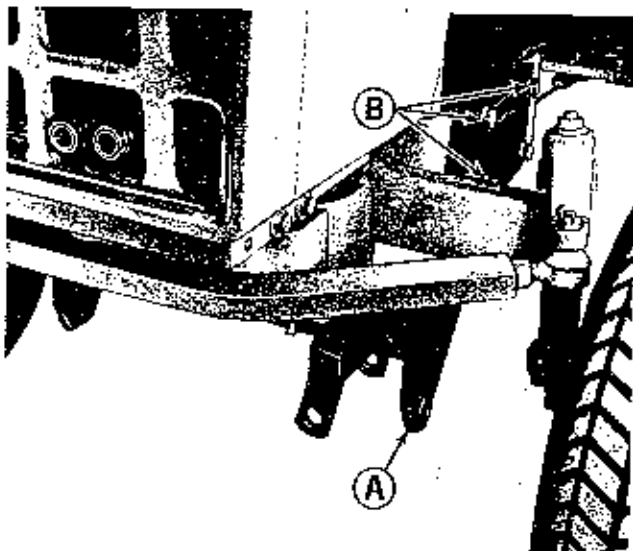
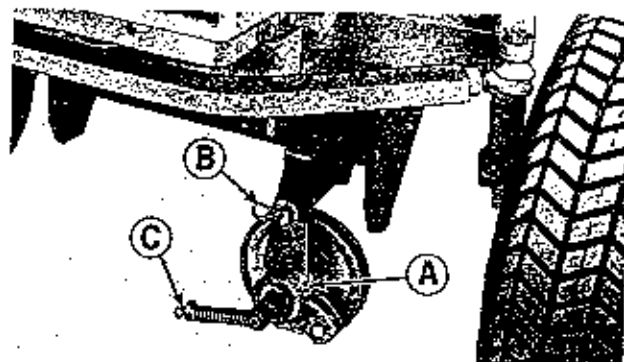
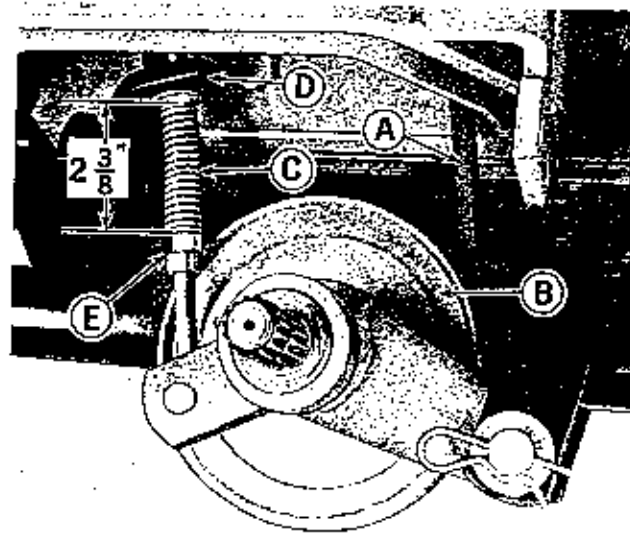
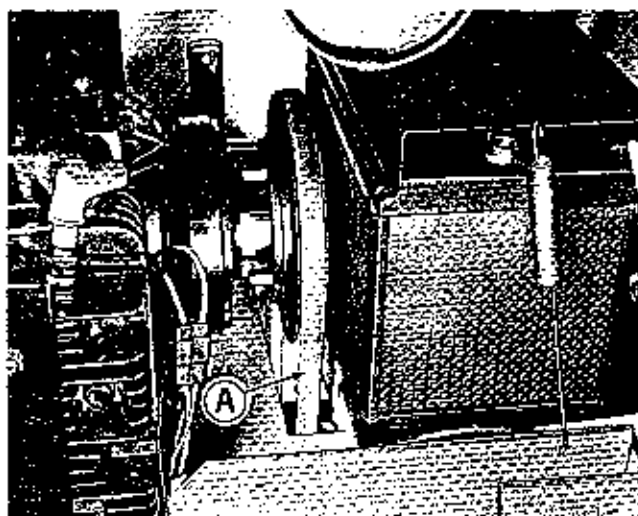

Figure 1. Hitch for front attachments installed on tractor.
Figure 2. Snow thrower drive installed on hitch assembly.
Figure 3. Drive belt tension adjustment.
Figure 4. Tractor hood raised to show drive belt installed on PTO pulley.
1. See figure 1. Install the hitch assembly for front mounted attachments (A) to the tractor frame as shown using eight capscrews and lock washers (B). Tighten the capscrews securely. If the snow thrower drive assembly (Figure 2, item A) is already installed on the hitch assembly for front mounted attachments, it need not be removed to install the hitch assembly.
2. See figure 2. If the snow thrower drive assembly (A) is not already installed on the hitch assembly, install it as shown in figure 2, using the pin and spring clips at (B).
3. See figure 3. Place drive belt (A) around pulley (B). Remove the springclip (Figure 2, item C) from the belt tensioning assembly and place the belt tensioning assembly (Figure 3, item C) through the hole in bracket (D). Install the spring clip (figure 2, item C) through the hole in the tensioning assembly (C), above bracket (D).
4. See figure 4. Raise the tractor hood and install drive belt (A) over the power take off pulley as shown. To do this it may be necessary to loosen the belt tightening assembly by turning the two nuts (Figure 3, item E) counter-clockwise, as viewed from below.
5. See figure 3. After drive belt (A) has been installed over
8. See figure 3. Turn the two belt tension adjusting nuts (E) counter-clockwise as viewed from below to release tension on drive belt (A).
9. See figure 4. Remove drive belt (A) from the engine power take off pulley.
10. See figure 3. Remove the spring clip above bracket (D) and replace it as shown in figure 2, item C.
11. See figure 2. Remove the drive assembly (A) from the hitch assembly by removing a spring clip and pin at (B). The tractor can be backed away from the snow thrower and used with another front mounted attachment such as the snow plow and dozer blade, or for jobs not requiring full ground clearance. If the tractor is to be used for jobs requiring ground clearance, perform step 12.
12. See figure 1. Remove the eight capscrews and lock washers (B) and remove the hitch assembly (A) from the tractor.